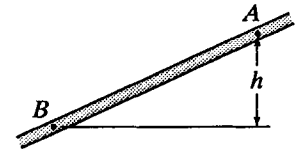

Figure X5.3.4
- 5.3.4 In Figure X5.3.4, the pipe AB is of uniform diameter and  $h = 28$  ft. The pressure at A is 30 psi and at B is 40 psi. In which direction is the flow, and what is the pipe friction head loss in feet of the fluid if the liquid has a specific weight of (a) 35 lb/ft3; (b) 92 lb/ft3?